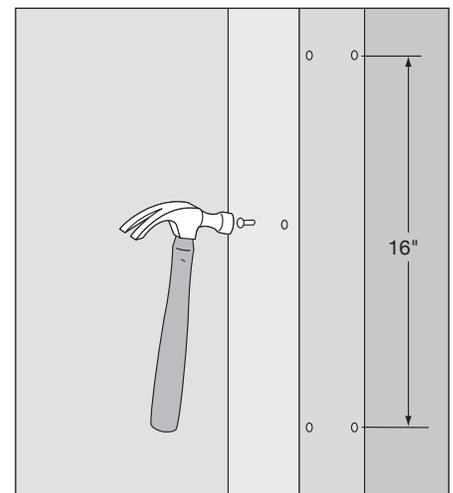

Fig. 14
- Secure each side of the corner with 2 nails every 16 inches along the length of each side of the corner, staggering the nail pattern to prevent opposing nails from contacting each other (**Fig.14**)